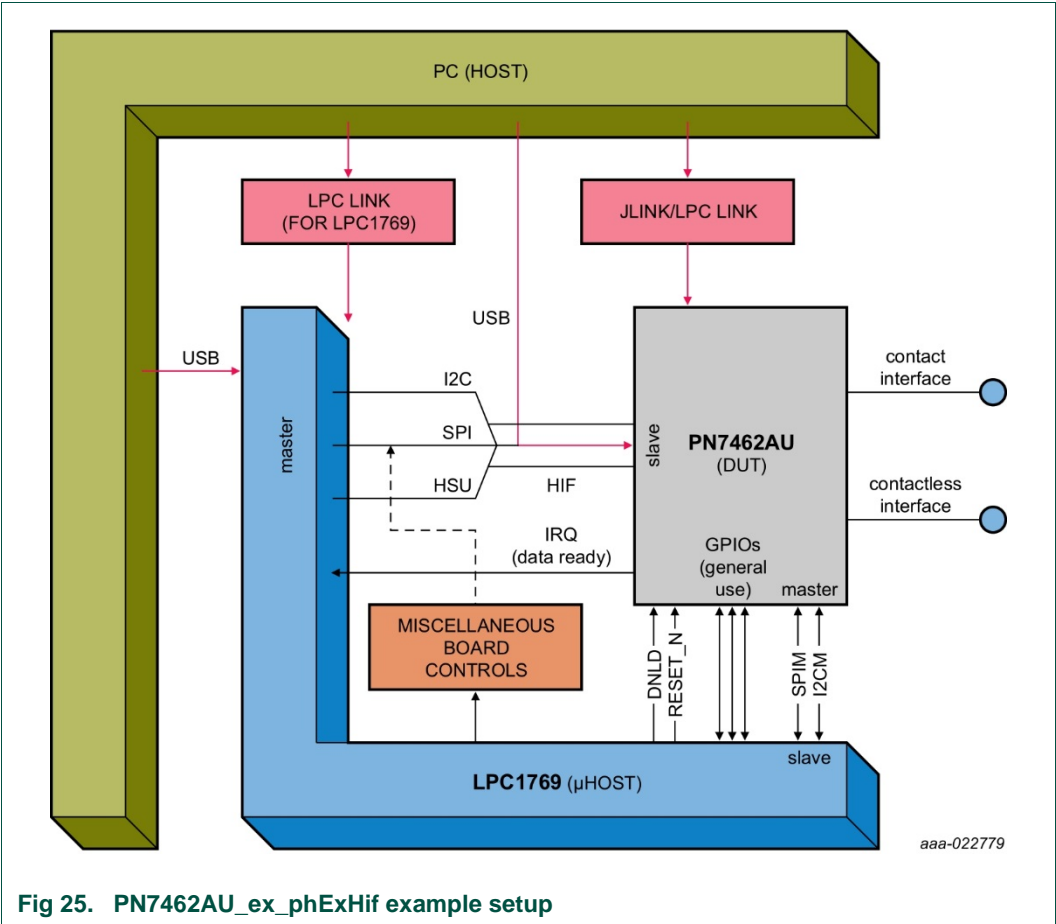

Fig 25. PN7462AU\_ex\_phExHif example setup
- Fig 25 and Fig 26 illustrate one instance of phExMain execution for both standby and non-standby scenarios.